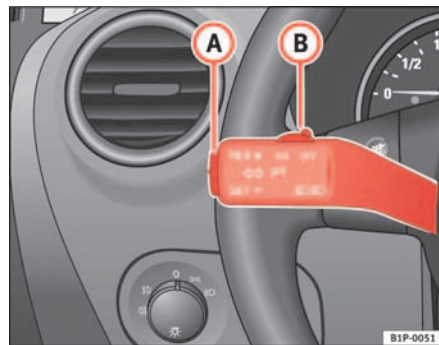

Fig. 122 Turn signal and main beam lever: switch and rocker switch for CCS
- Press the lower part of the rocker switch once briefly when you have reached the speed you wish to set **SET** ⇒ fig. 122 (A).